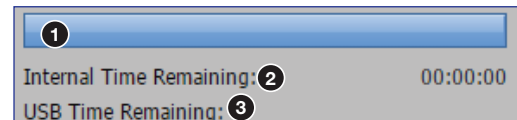

Figure 17. Progress Bar and Record Time Available
A progress bar (see figure 17, ①) below the recording control buttons is a horizontal bar graph that shows how much recording time has elapsed. Initially, the progress bar shows a five minute duration. The displayed duration increases in five-minute increments as the ad hoc recording progresses.